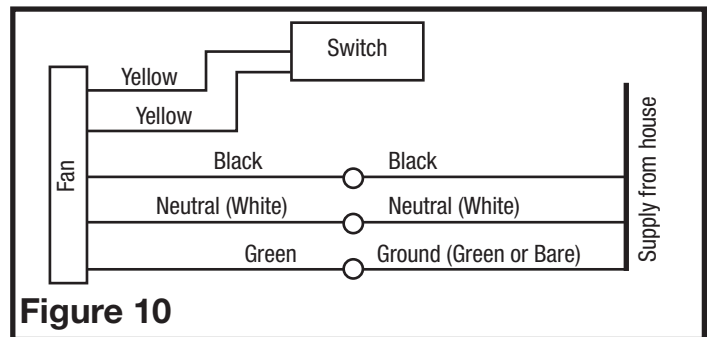

Figure 10
5. For two speed fans wired for continuous ventilation, connect the White wire of the fan to the White (Neutral) wire from the power source. Connect the ground wire from the house to the Green wire from the fan housing. Using a properly grounded switch connect the Black wire from the supply to the input side. Connect the Yellow wire from the fan to the other side. Closing the switch will change from normal to high speed. A manual override switch (not included) can be used to provide a manual fan Off function. (Figure 10).